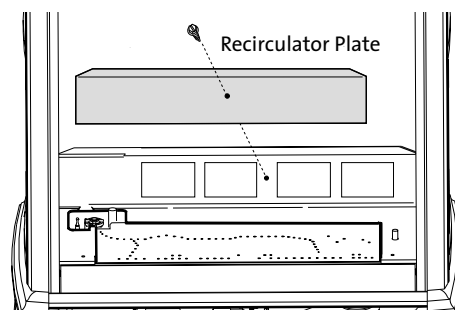

Figure 5. Remove Recirculator Plate.
1. **For Any Vertically Terminated Stove - Fig. 5.**
- Remove the Recirculator Plate from the back of the Burner Skirt as shown in fig. 5. Determine which Air Intake Restrictor plates should be used by following the guidelines on page 9.